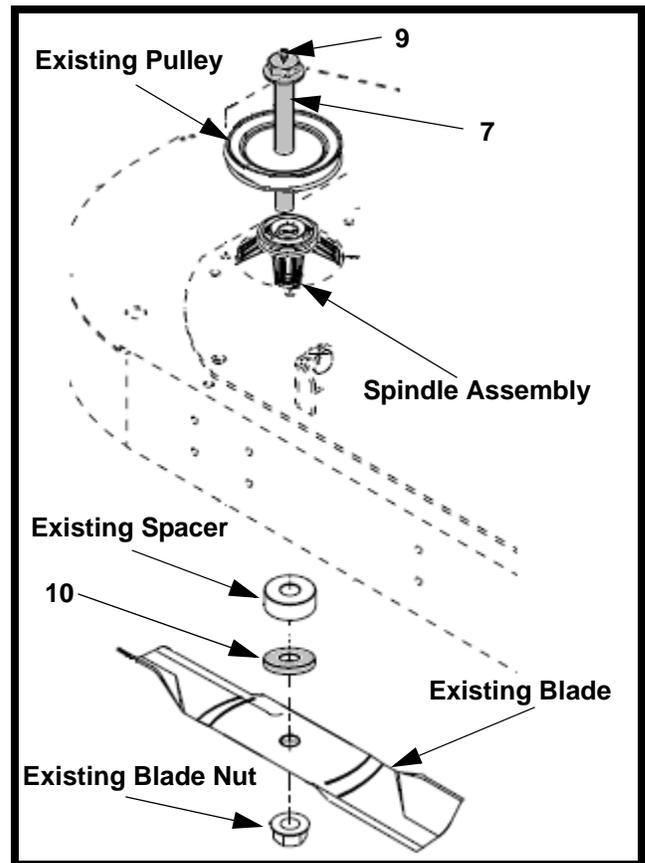

FIGURE 4
12. Install one (1) of Ref. #9 (737-3000) 3/16" drive in lube fitting into one (1) of Ref. #7 (710-05417) 3/4-16 x 5.625" spindle bolt.
14. Finish assembling the LH spindle assembly from the underside of the deck with the existing blade spacer and one (1) of Ref. #10 (748-3101A) blade spacer, the blade, (wing side up) and secure with the blade nut. Torque the spindle bolt and blade nut to 80-100 ft. lbs. See Figure 4.